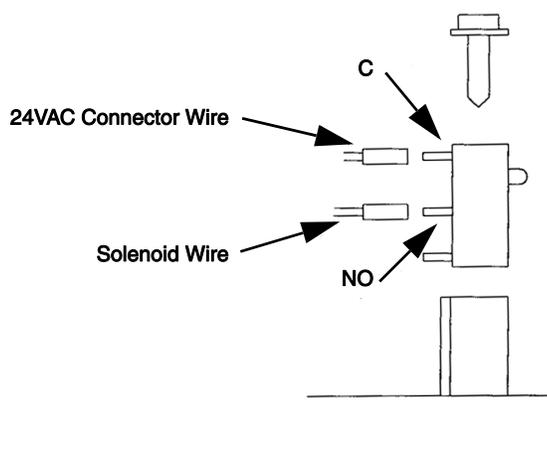

Figure 2
9. Connect valve switch wires to snap action switch, with solenoid wire attached to the normally open (NO) terminal and the 24VAC connector wire to the common (C) terminal. Insert snap action switch into FFV valve body and secure with screw (see Figure 2).